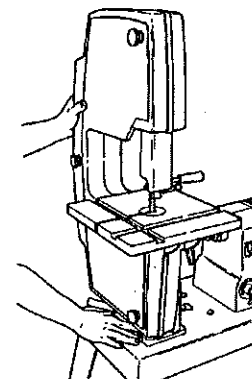

Fig.B-13
12. Line up the notches in the drive shaft hub with the ridges inside the coupler. Unlock the carriage, and with one hand on the carriage and another near the middle of the Bandsaw, slide the carriage so that the coupler on the Bandsaw fits over the drive shaft hub (31). See Fig.B-13.